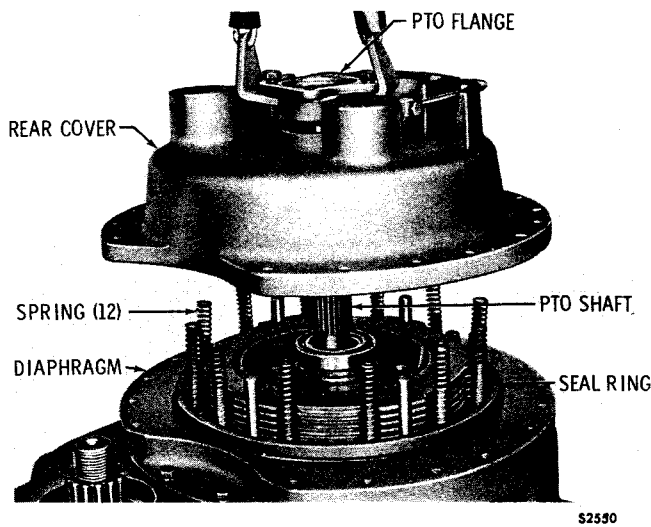

Fig. 7-27. Installing rear cover assembly
(1) Attach a sling to the bolt circle flange of the rear cover assembly (as assembled in para 6-14c and d). Hoist the assembly into position over the transmission in a manner similar to that shown in figure 7-27.
(2) Check to insure that all of the brake return springs are straight and alined, and that the sealring is in place on the diaphragm (fig. 7-27).
(3) Lower the assembly to within approximately 1-1/4 inches (32 mm) of the diaphragm and check "by feel" to insure that each brake return spring will enter its recess in the brake apply plate.
(4) Continue lowering the assembly until it stops its downward travel and its weight is supported by the brake return springs. Remove the sling. Using two 3/8-16 x 3-inch bolts, draw the rear cover assembly down sufficiently to allow the engagement of the proper bolts. Install sixteen 3/8-16 x 2 3/4-inch bolts and lockwashers, remove the two draw bolts, and install remaining two 3/8-16 x 2 3/4-inch bolts and lockwashers. Tighten the eighteen bolts to 26 to 32 pound feet (35 to 43 Nm) torque.
(1) Attach a sling to the PTO flange of the rear cover assembly (as assembled in para 6-14a and b). Hoist the assembly into position over the transmission, as shown in figure 7-27.
(3) As rear cover assembly is lowered, rotate the PTO flange, so that the shaft splines will engage the high-range clutch hub and the reverse-and-low-range sun gear.
(4) Check the alinement of the brake return springs as described in c(3), above. Attach the rear cover assembly as described in c(4), above.